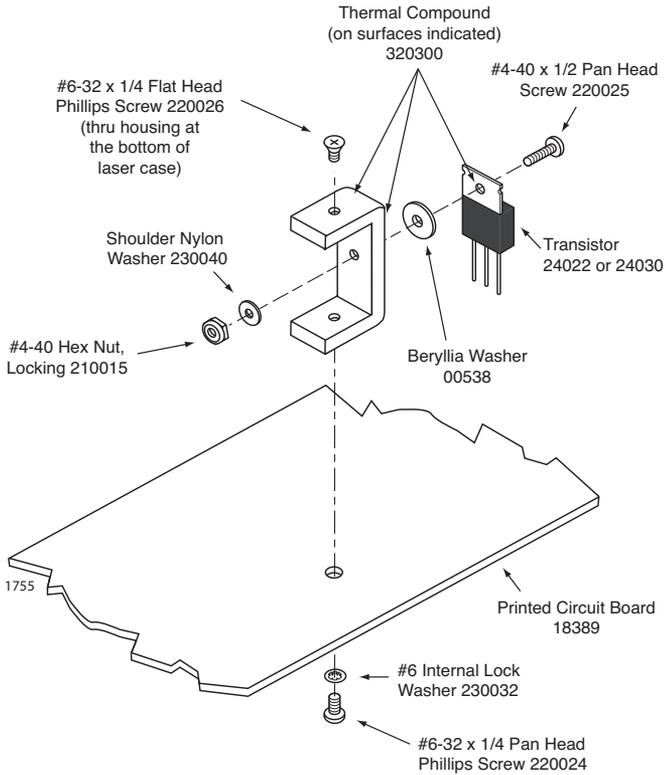

Figure 2 Heat sink assembly.
Transistor Q1 is perhaps the most challenging component to mount on the printed circuit board. This is because it must not only be mounted in the correct location but additional heat sinking precautions also must be taken to avoid premature failure of this sensitive part. Refer to the exploded view of transistor Q1 and its heat sink mounting components in Figure 2.
1. Hold transistor Q1 so its metal mounting tab is facing the aluminum heat sink as shown in Figure 2.
2. Mount the transistor to the heat sink with a screw and alumina washer as shown in Figure 2. Use approximately one-half of the heat sink compound supplied, liberally coating both sides of the washer. The remaining heat sink compound will be used in a later step. The shoulder washer and nut go on the other side of the heat sink, with the “neck” of the washer fitting into the hole in the heat sink. Tighten the nut firmly to get tight surface contact between the transistor, alumina washer and heat sink.